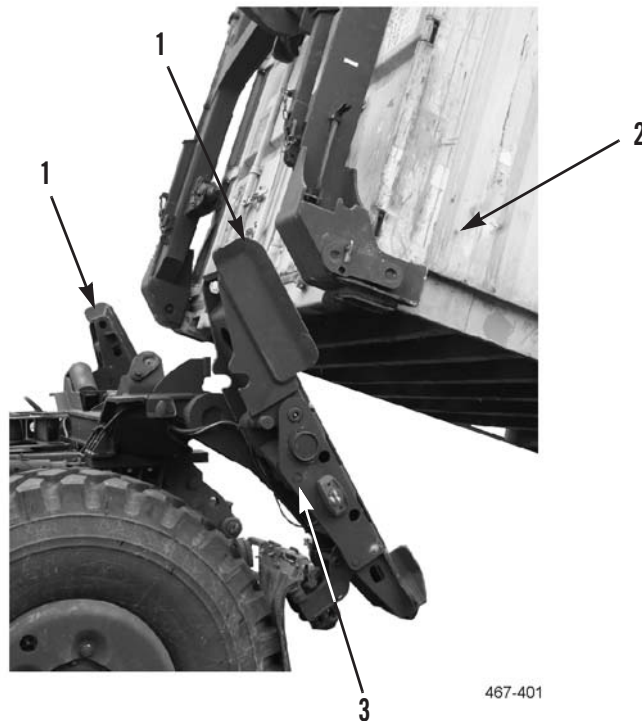

Figure 11. Container Between Tapered Guides.
4. While watching container (Figure 11, Item 2) in right and left mirrors, verify that container is between right and left tapered guides (Figure 11, Item 1) on rear slider beds, before it makes contact with rear sliders (Figure 11, Item 3). If necessary, steer vehicle to guide container between tapered guides, or unload and repeat load procedure.